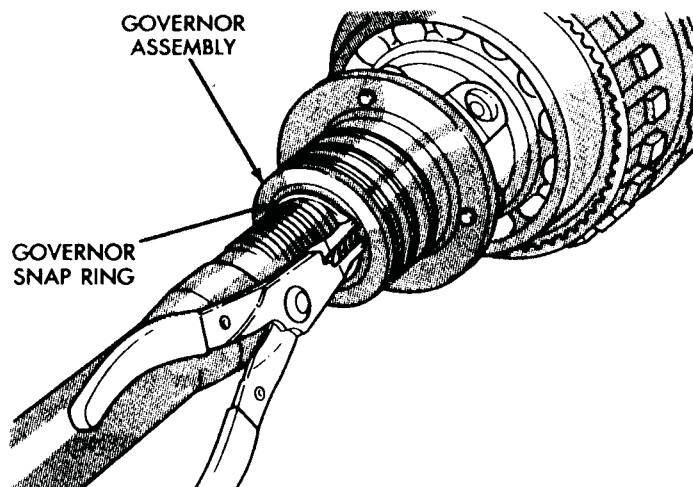

Fig. 17 Removing/Installing Governor Snap Ring
(2) Remove governor snap ring (fig. 17).